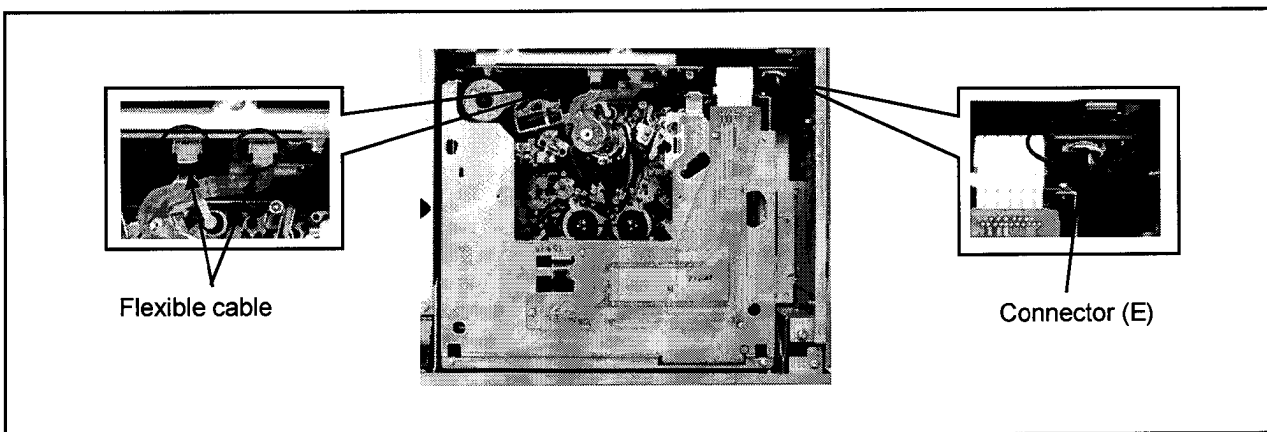

Figure 14-3
7. Disconnect the 2 flexible cables (on the RF CUE P.C.Board) and a connector (E) as shown in figure 14-3.